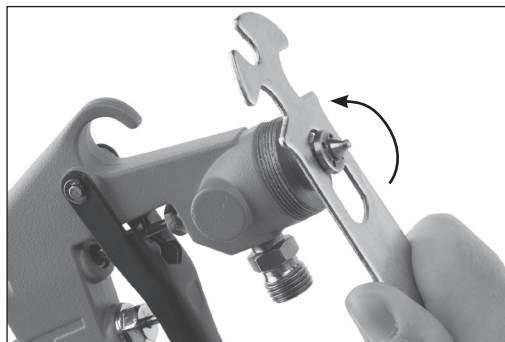

Fig. 3
2. Use the M6 spanner (H4) to unscrew and remove the nozzle head (13) (Fig. 3).
3. Rotate the fluid control dial (4) anticlockwise until it comes away from the spray gun body.